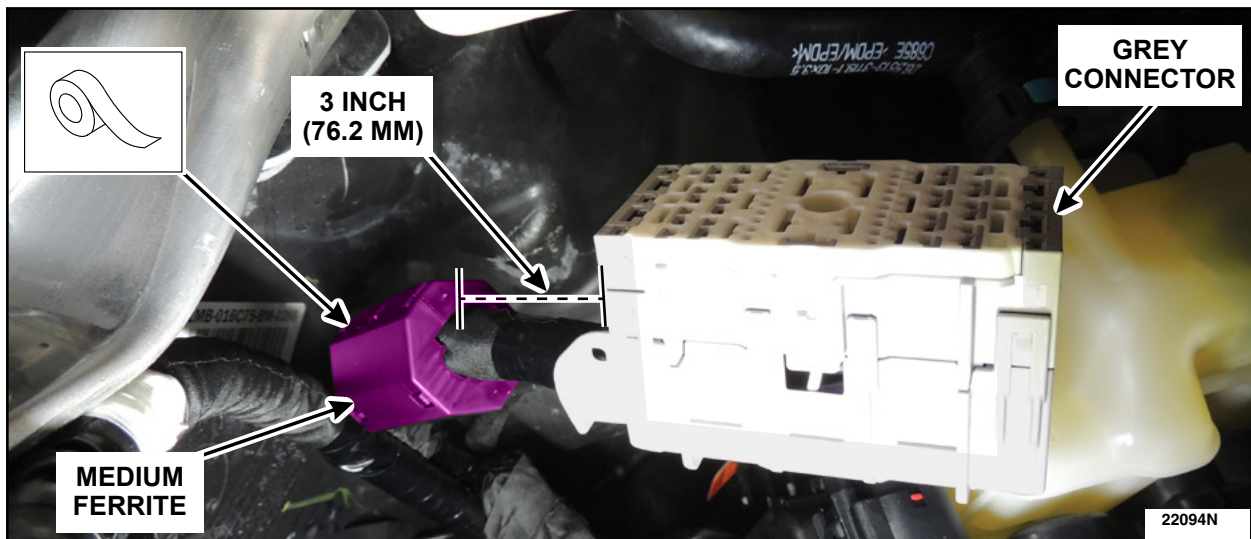

FIGURE 15
21. Measure 3 inches (76.2 MM) from the back of the grey connector. Install a **MEDIUM** ferrite (item B) to the wiring harness in the designated location. See Figure 15. Apply 3 wraps of Coroplast® tape around the ferrite to secure it closed.